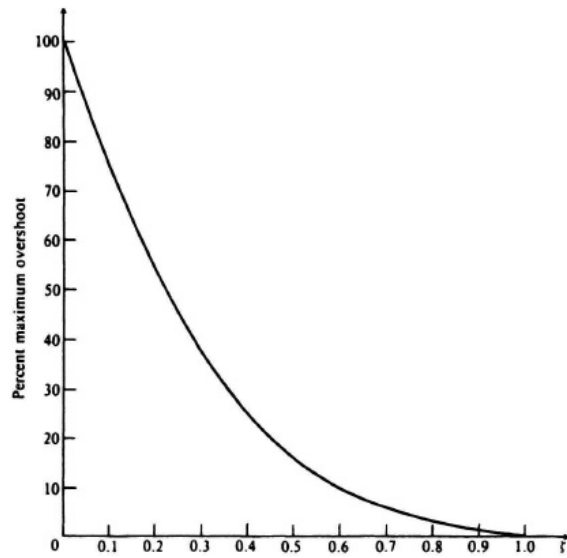

Figure 4.5 Percent maximum overshoot versus damping ratio for a second-order system.
- e. Plot the step response of the system. Does your percent overshoot correspond to the overshoot of a pure, two-pole system with a $\zeta = 0.6$? Explain why your overshoot does or does not agree with Figure 5.7 (or Figure 4.5 in Shinnars' Text, see below). (A step response of the closed-loop system can be generated using the 'step' command in MATLAB. For example, `step(cltf)` should produce the needed time domain step response for a closed-loop system stored in 'cltf'.)
Figure 4.5 from "Modern Control System Theory and Design," Second Edition, Stanley M. Shinnars, John Wiley & Sons, Inc., 1998, pg. 249.